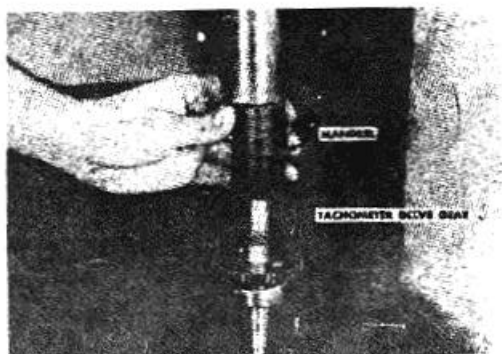

Figure 4-46. Press on tachometer drive gear.
6. Press the tachometer drive gear in place up to the governor drive gear. Some pumps do not have a tachometer drive. Fig. 4-46. Check to see that all parts are firmly seated on each other.